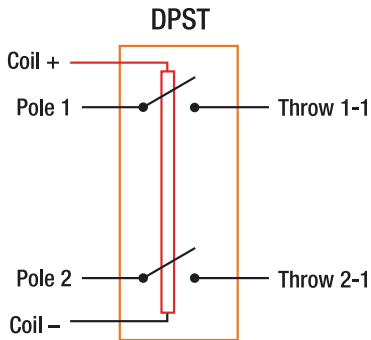

Figure 2-4. This DPST relay has two poles, and each pole has one contact (a double switch).
- Double Pole, Single Throw (DPST): This type of relay uses one coil to operate two independent SPST switches at the same time (see Figure 2-4). This relay has six total contacts and is useful for switching two loads at the same time—the two loads being switched can be associated (like a set of motor wires) or separate (like a dual-voltage power switch).